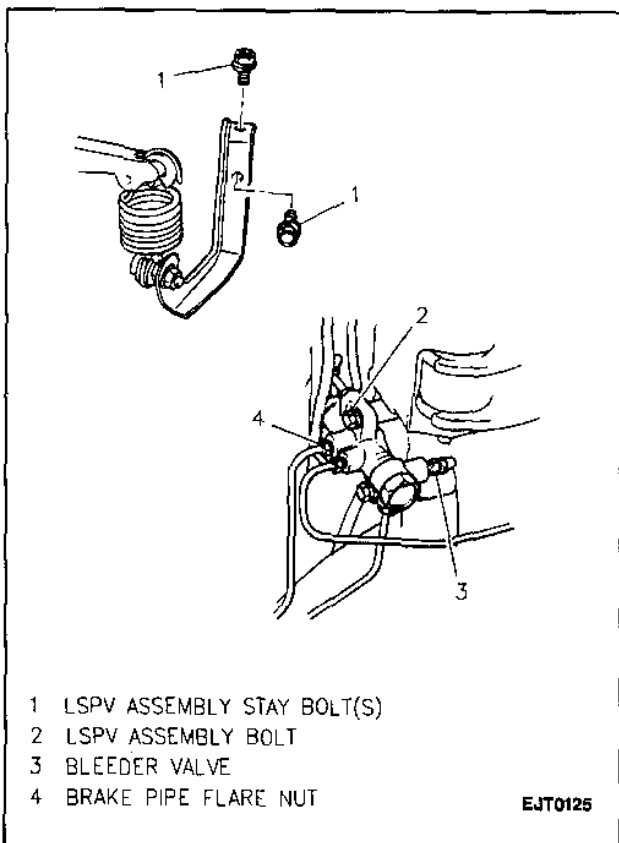

Figure 13—Load Sensing Proportioning Valve (LSPV) Spring Bracket
4. Two bolts securing Load Sensing Proportioning Valve (LSPV) spring bracket to upper control arm (if equipped) (Figure 13).
6. LSPV load sensing spring bracket to upper control arm; securing with two bolts (if equipped) (Figure 13).